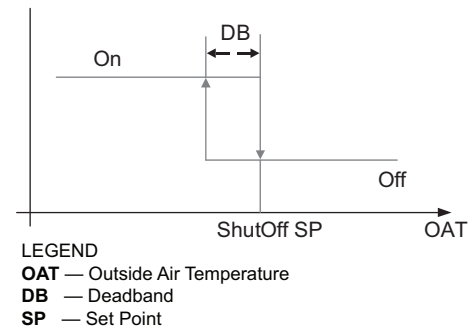

Fig. 45 — Hysteresis Settings
Hysteresis setting (DB) defaults to 2°F (–17°C). See Fig. 45.